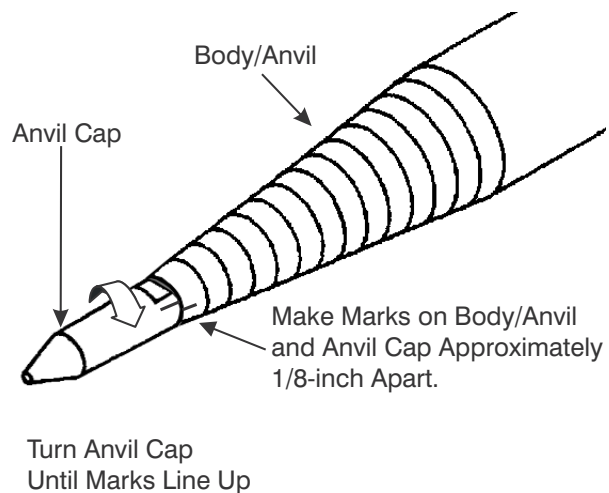

Figure 9-28. Secure Anvil Cap to Body/Anvil.
1. Place the Hole-Hog on a level surface and thread the Anvil Cap (22) onto the Body/Anvil (1) hand tight.
2. Hold the Body/Anvil (1) in place with a strap or chain wrench. See Figure 9-28.